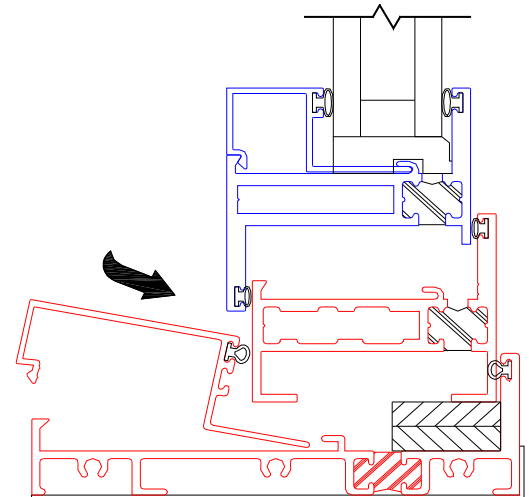

Figure C3:
5. Finish installation by inserting glass stops to secure the insert into the 3800-T frame (Figure C3).